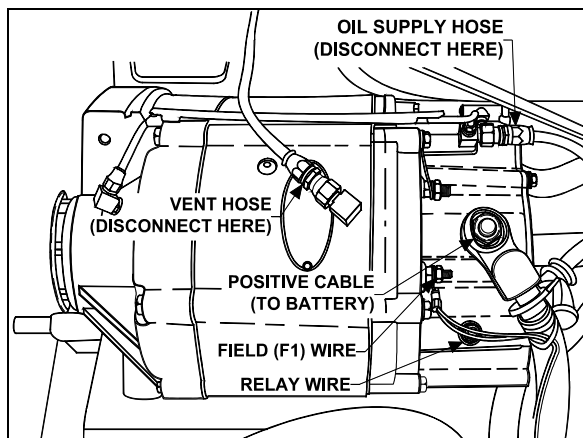

FIGURE 22: ALTERNATOR (HOSES AND WIRES) 06073
4. Scratch off protective sealer from electrical connections (relay, field and positive terminals). Refer to figure 22.
5. Disconnect wire #25 from the relay terminal, wire #107 from the field "F1" terminal and disconnect battery cable from the positive "+" terminal on the diode end cover. Tag wires removed to ease identification at time of installation. Refer to figure 22.
6. Disconnect oil supply line and vent hose from top of alternator (Fig. 22) and tape